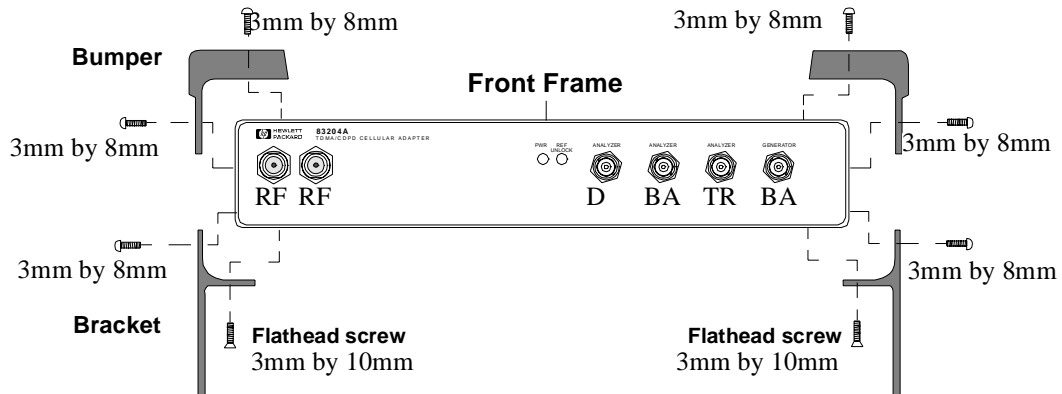

Figure 21 Removing the Bumpers and Brackets
2. Remove the 2 bumpers and 2 brackets from the front frame as shown in figure 21.